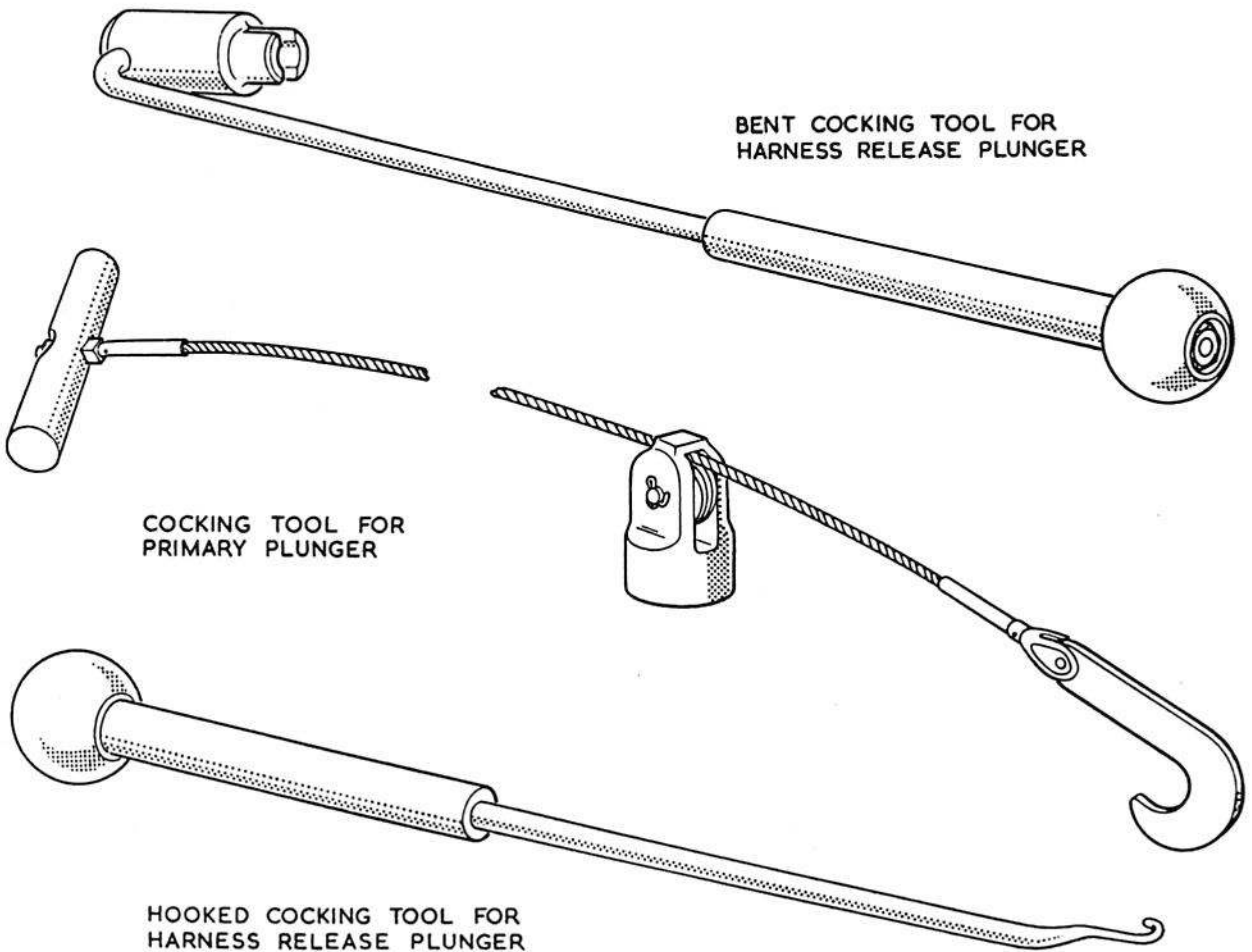

Fig. 1. Special tools (Mk. 3A seat)
2. The lack of overhead space in the Valiant aircraft prohibits the use of the normal cocking tools, should it be necessary to re-cock the barostatic time-release unit in situ. In such circumstances the additional tools shown in fig. 1 are required. They are a cocking tool for the primary plunger (Stores Ref. 27L/552), a hooked tool for harness release plunger (Stores Ref. 27L/550) and a bent tool for the same plunger (Stores Ref. 27L/551).